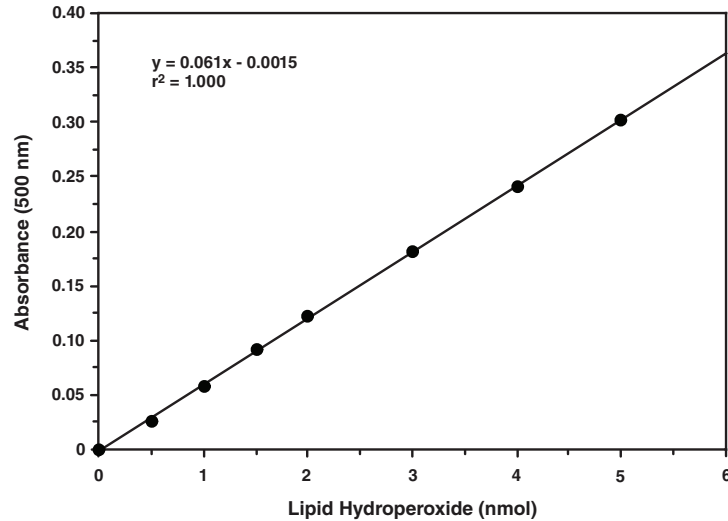
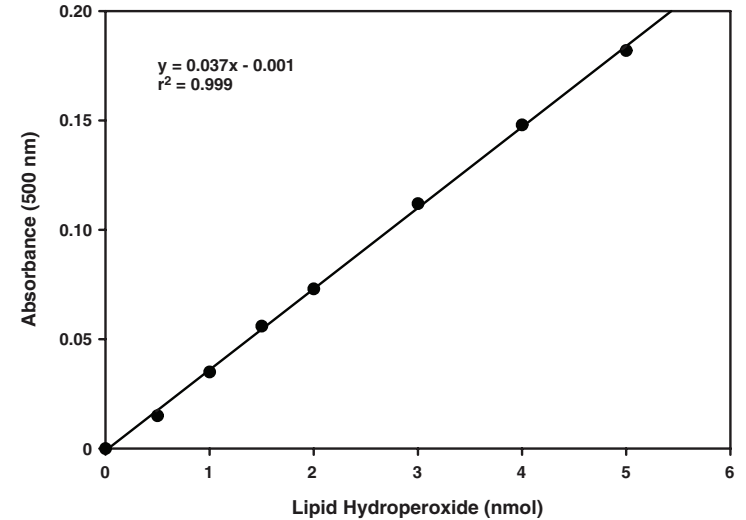

Figure 2. Typical standard curve for the spectrophotometric assay
Figure 3. Typical standard curve for the 96-well plate format
3. Plot the corrected absorbance of standards (from step 2 above) as function of final hydroperoxide value from Table 1 (see page 14). See Figure 2 below, for a typical standard curve using a spectrophotometric assay. See Figure 3, (page 18), for a typical standard curve using a 96-well plate format.